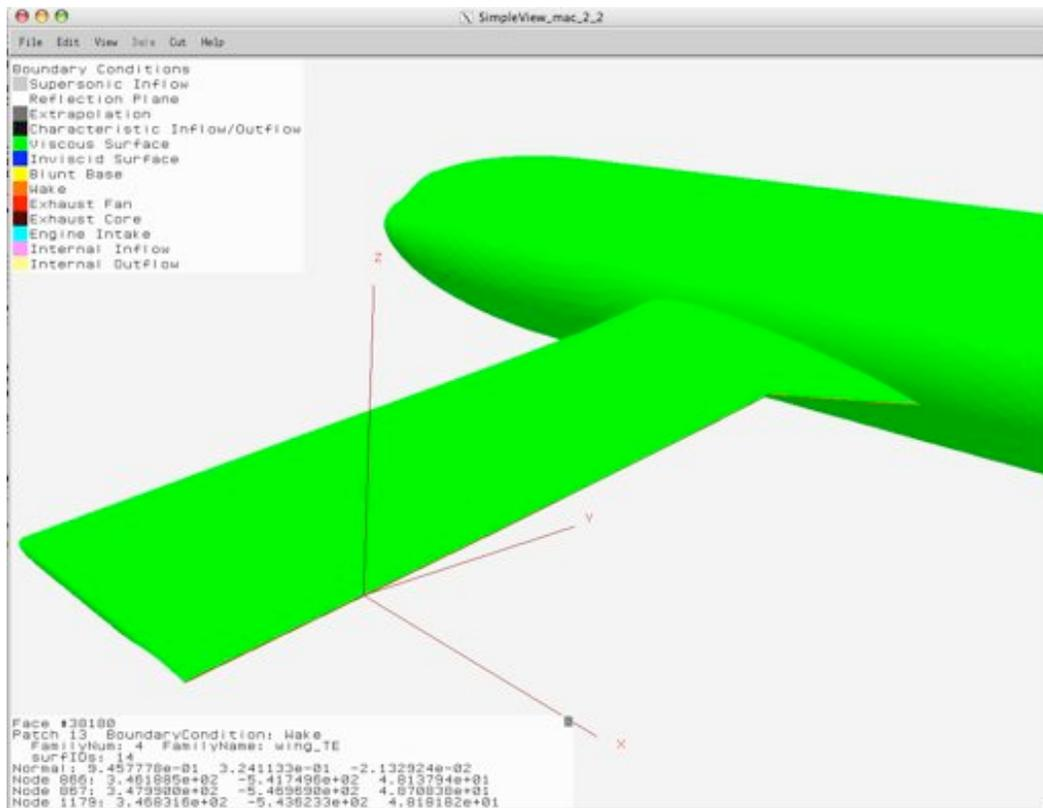

Figure 2.3.5 Displaying Boundary Conditions
When either the "surface" or "full" cogsg file is loaded, SimpleView will automatically attempt to load the MapBC file having the same project name and path (i.e., if you load "/home/Surface/airplane.cogsg", SimpleView will attempt to load "/home/Surface/airplane.mapbc"). You can then display the configuration with each surface patch shaded according to the boundary condition that has been associated with it, as shown in Figure 2.3.5.
1. Make sure that you are viewing the surface boundary conditions (i.e., that the “Boundary Conditions” option is checked in the View panel), as shown in Figure 2.3.5.